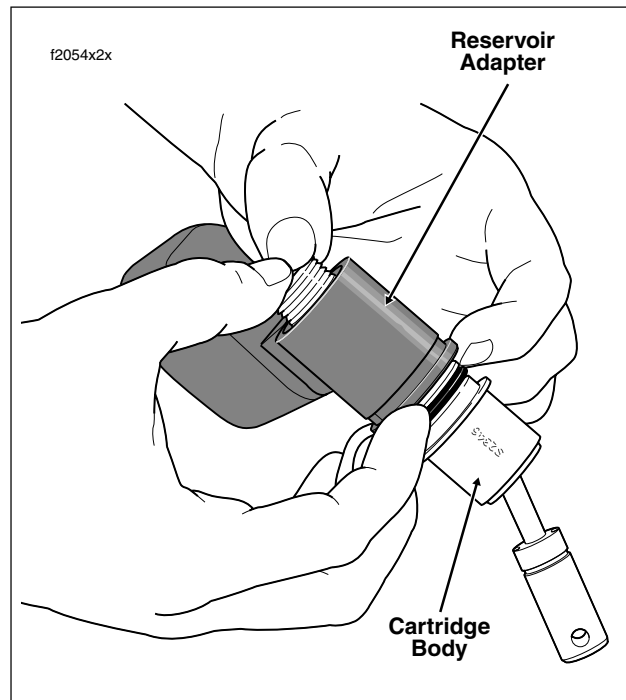

Figure 2-49. Remove Cartridge From Reservoir Adapter
6. Push on threaded end of cartridge body to remove from reservoir adapter. Use hand pressure only. Exercise caution to keep cartridge body free of dirt and grease. See Figure 2-49.